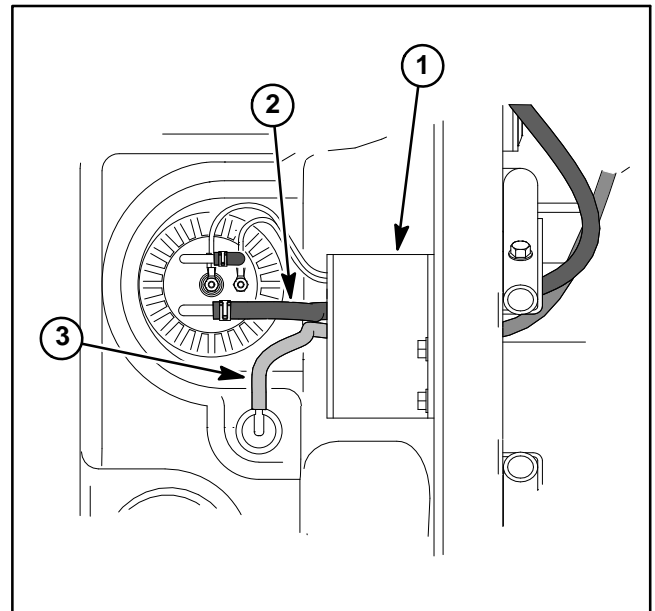

Figure 4
4. Note routing of fuel hoses for installation purposes (Fig. 4). Disconnect fuel hoses from fuel sender and rollover valve. Plug fuel hoses to prevent leakage or contaminant entry.
2. Remove plugs placed in fuel hoses during fuel tank removal. Connect fuel hoses to fuel sender and rollover valve (Fig. 4). Secure fuel hoses with hose clamps.
4. Position retainer plate to tank and frame. Make sure that fuel hoses are correctly placed under retainer. While pressing down on retainer plate to best retain tank, install and tighten washer head screws (item 19) to secure fuel tank.